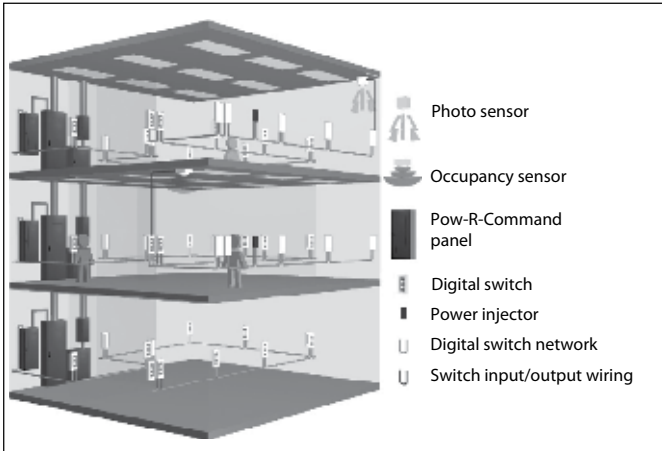

Figure 3-13. Lighting control in a commercial building
1. Select PRC2000 Panelboard Chassis from **Figure 3-13**.
2. Layout panel as shown in **Figure 3-13**. Total "in." determine box height shown in **Table 3-42** (When total "in." units exceeds the number shown, use next size box size).
2. Layout information from **Figure 3-13**.